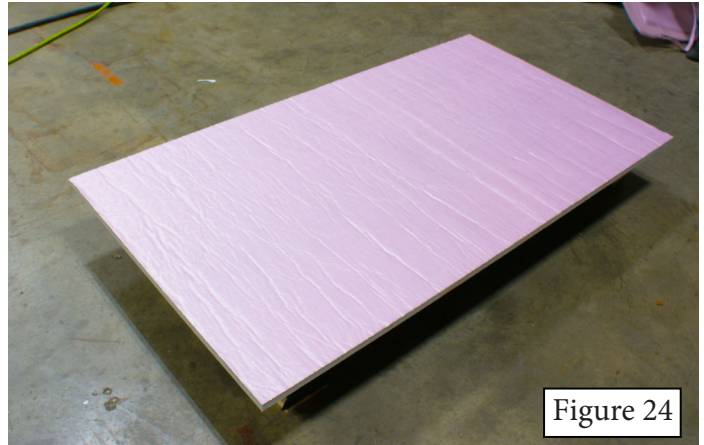

Figure 24
24. Apply insulation to the floor and trim to fit (Figure 24).
- Using a screw gun and a #2 square drive bit, remove the skirting along the lower side wall of the unit up to the kitchen slide-out (Figure 24). Some prying may be required to remove the skirting.